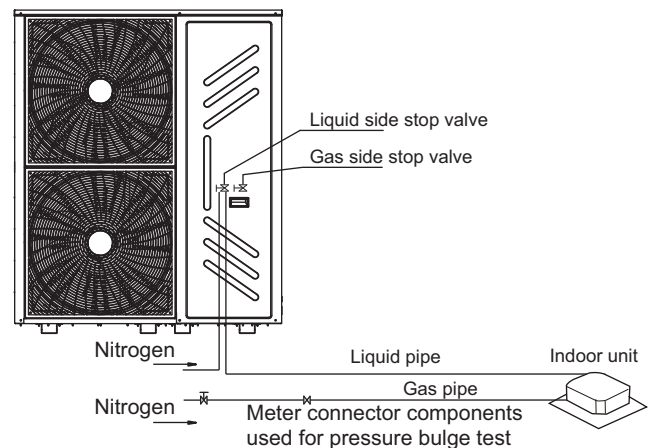

Fig.5-8
- DO NOT pressure to the stop valve directly.(See Fig.5-8)